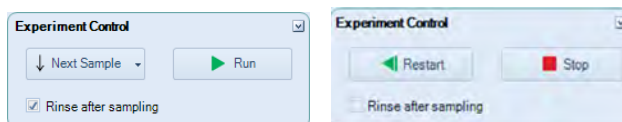

Figure 3-8 Experiment Control Panel
After setting the acquisition parameters and acquisition conditions, double-click the CD3_CD8_CD45_CD4 sample and set it as the Active Sample in the *Experiment Manager*. A red arrow will appear to the left of the sample, indicating it is the Active Sample. At the same time, the sample name in *Cytometer Control* → *Active Sample Information* panel becomes CD3_CD8_CD45_CD4. To begin collecting this sample, place the CD3 FITC/CD8 PE/CD45 PerCP/CD4 APC sample tube into the sample holder on the NovoCyt flow cytometer. Then click the *Run* button in the *Cytometer Control* → *Experiment Control* panel to start sample acquisition (Figure 3-8). At this time, the sample injection probe will move downward to aspirate the sample. After a short period of time for stabilizing the fluidic system, sample acquisition and data collection will start. During the data acquisition, the *Restart* button will appear in the *Experiment Control* panel. Clicking this button will delete all collected events, reset the collection time and volume in the *Active Sample Information* panel, and restart the data collection.
*If you want to increase the sampling speed, you can turn off the automatic cleaning procedure after sampling. To do so, uncheck **Rinse after Sampling** box in the *Cytometer Control* panel from the NovoExpress software as shown in Figure 3-8.*